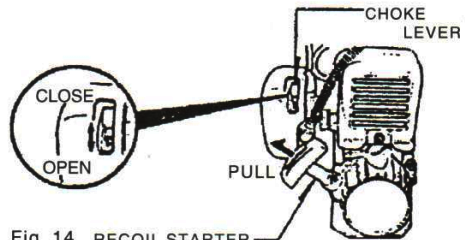

Fig .12
3) Set the choke lever to CLOSE. (Fig. 12)